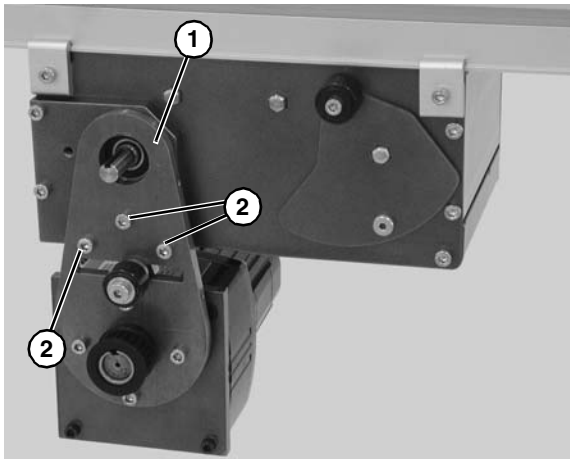

Figure 6
- Attach mount assembly (**Figure 6, item 1**) with screws (**Figure 6, item 2**). Install long screws on bottom. Tighten screws to 80 in-lb (9 Nm.).